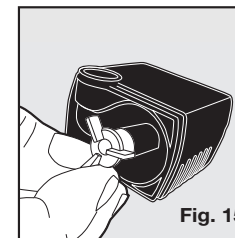

**Fig. 15**
- Once the stator is removed, remove the impeller (white, 3-bladed propeller). The impeller is held in place by a magnet, simply use a fingernail to get underneath a blade and lift out (**Fig. 15**).